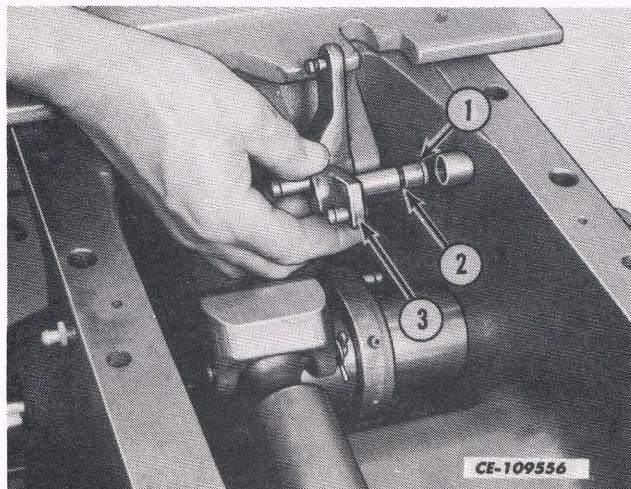

Fig. 24
l. Remove the snap ring (1) on the outside of the position control eccentric assembly (3) and remove the assembly with "O" ring (2). See Fig. 24.